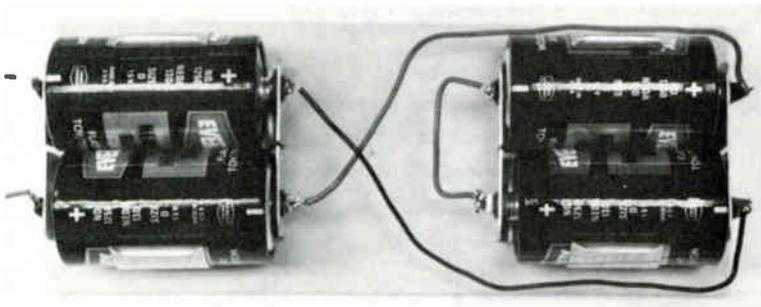

Fig. 25
8. The batteries in Fig. 25 are connected in
9. What's the output voltage of the battery in Fig. 25, assuming each cell is 1.5 V?